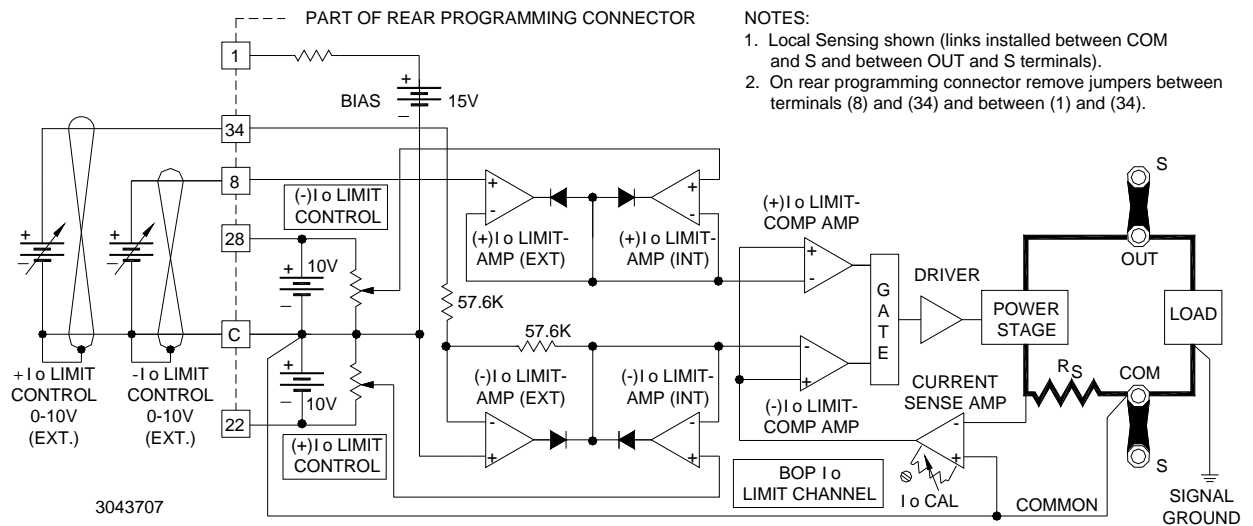

FIGURE 3-13. INDEPENDENT REMOTE CONTROL OF + I_O AND - I_O LIMITS
If individual control of the \pm current limits is desired, the jumper between (8) and (34) at the Rear Programming Connector must be removed and separate control sources must be connected: 0 to +10 volts to pin 8 for the $+I_O$ limit, and 0 to +10 volts to pin 34 for the $-I_O$ limit, both with reference to common (see Figure 3-13).